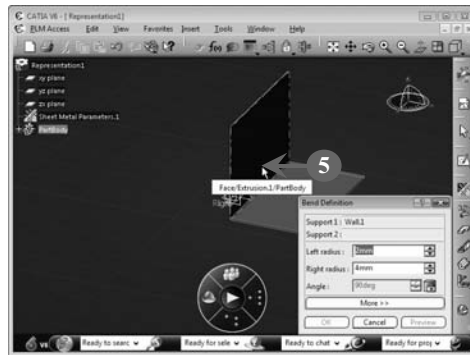

FIGURE 6.49
The base wall is added to the **Bend Definition** dialog box (**Figure 6.49**).
5. Select another wall, as shown in Figure 6.49: